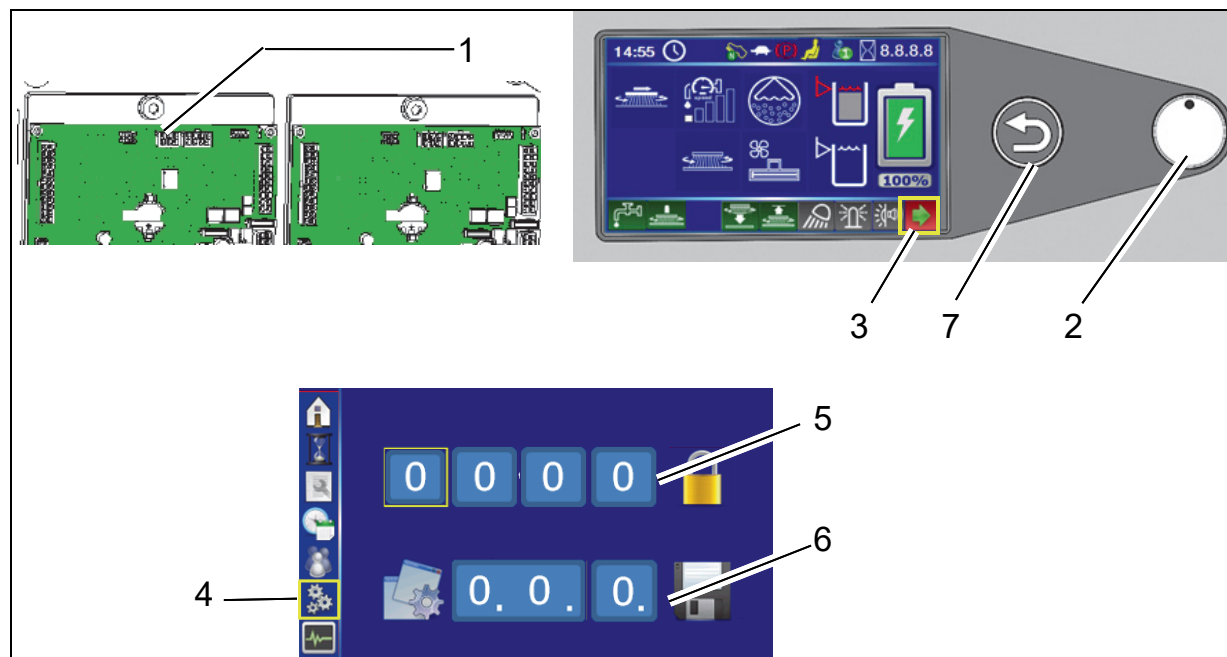

Fig. 7
Plug diagnostic connector into slot X20 of controller A1 (Fig. 7/1).
2. Select the arrow soft key (Fig. 7/3) on the control panel using the turn-push knob (Fig. 7/2) and press to access the sub-menu.
3. Select the configuration menu in the sub-menu (Fig. 7/4).
4. Enter the 4-digit code in the configuration menu at the top (Fig. 7/5):
In the configuration menu at the bottom (Fig. 7/6), set the value of the option and save by pressing the turn-push knob. After confirming the last digit, OK? appears. Press the turn-push knob again to save the value. Saved value is displayed in green.
If the value is not to be saved, exit menu using the return key (Fig. 7/7).